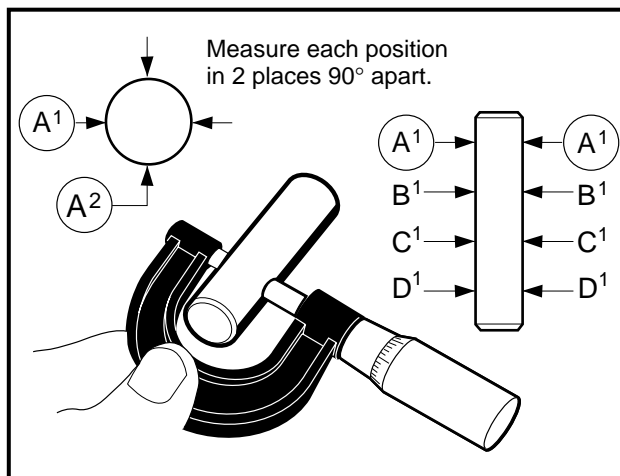

Figure 13-55 Measure O.D. of Piston Pin
1. Using a micrometer, measure the outside diameter of the piston pin at several points along its length (Figure 13-55, Page 13-28).